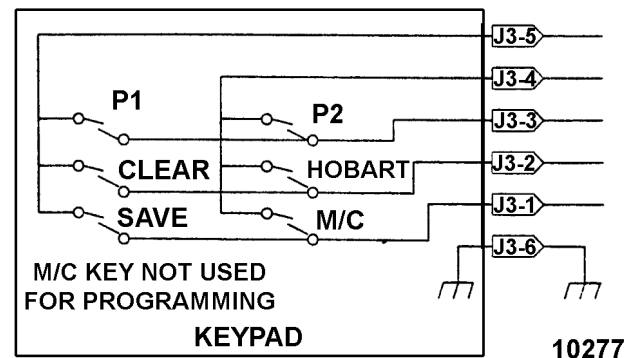

Fig. 170
- A. Check continuity of key switches. Refer to Fig. 170. When contacts are closed, resistance should be 50 ohms or less.